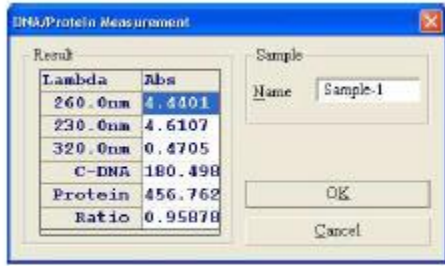

Fig. 4-46
12. Place a sample in the sample holder. Click start or  to run a new measurement. The display will change to the following (fig 4-46).